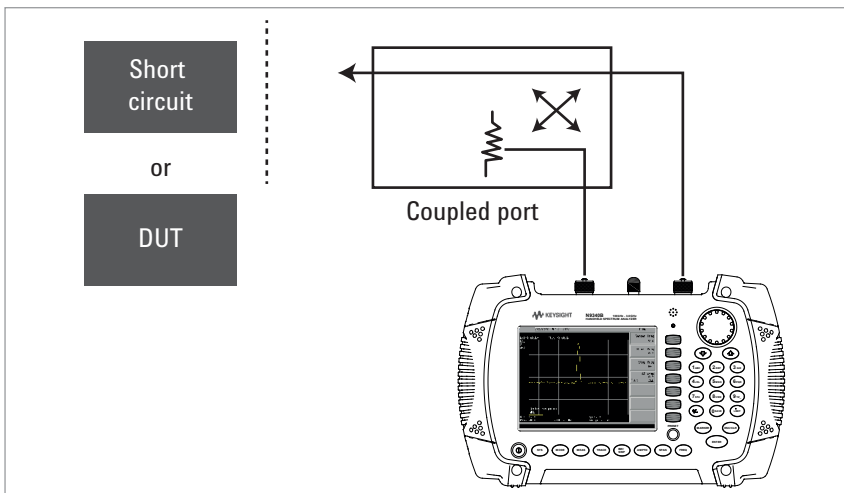

Figure 9. Reflection measurement setup
1. Connect the DUT to the directional bridge as shown in Figure 9 and terminate the unconnected port of the DUT.